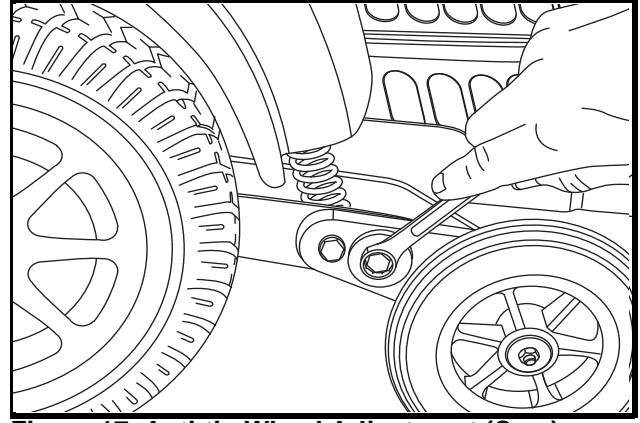

Figure 17. Anti-tip Wheel Adjustment (Cam)
4. To adjust the anti-tip upward, turn the cam counterclockwise. To adjust the anti-tip downward, turn the cam clockwise. See **figure 17**.